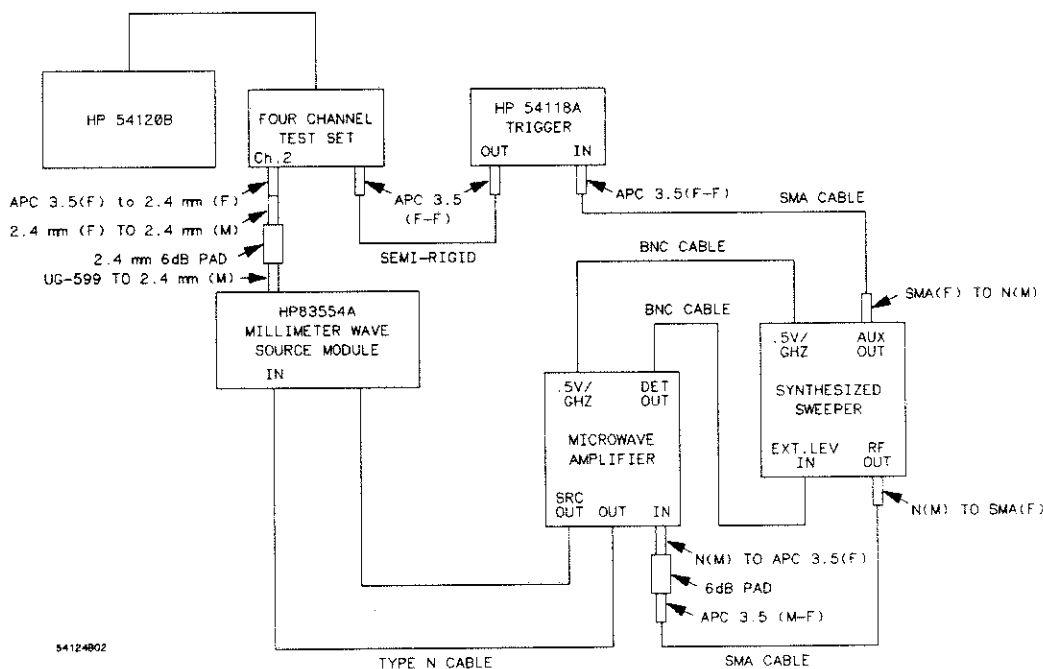

Figure 3-4. Bandwidth Test Equipment Connection D.
26. Connect the equipment as shown in figure 3-4. The connections are changed to channel 2. Keep the source module set to 17 GHz (doubles to 34 GHz).
45. Connect the equipment as shown in figure 3-4, except connect the equipment to channel 3.